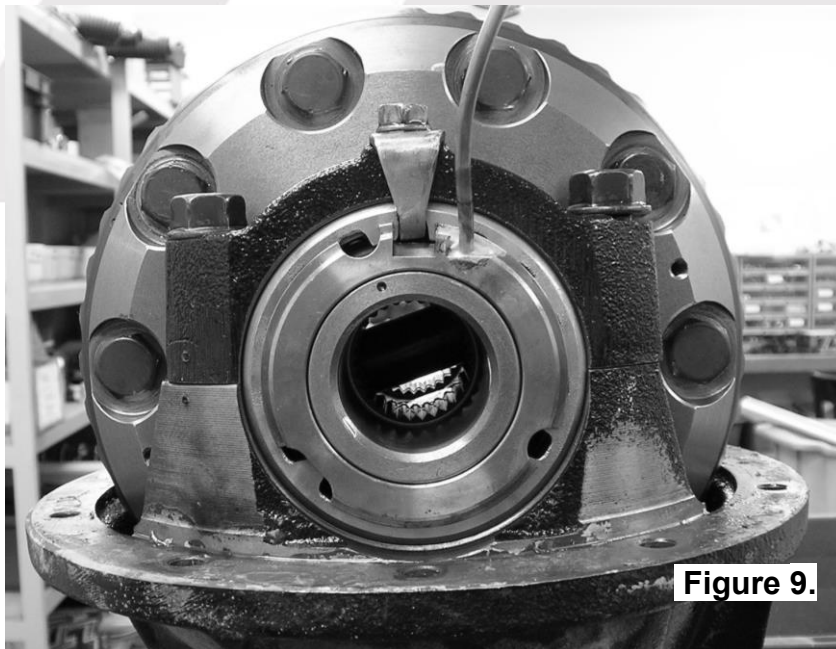

Figure 9.
- Rotate the seal housing until the square cutout lines up with the locking tab position at the center of the bearing cap. (Fig.9.)